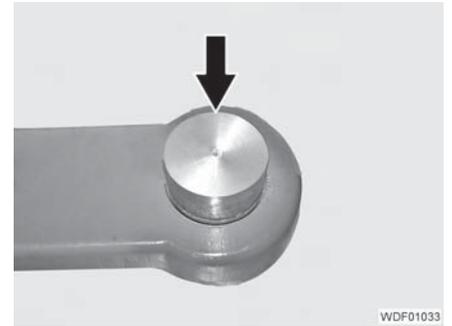

Fig. 301 Expulsion tool
- Drive out the pivot bearing downwards using a suitable expulsion tool (Fig. 301).